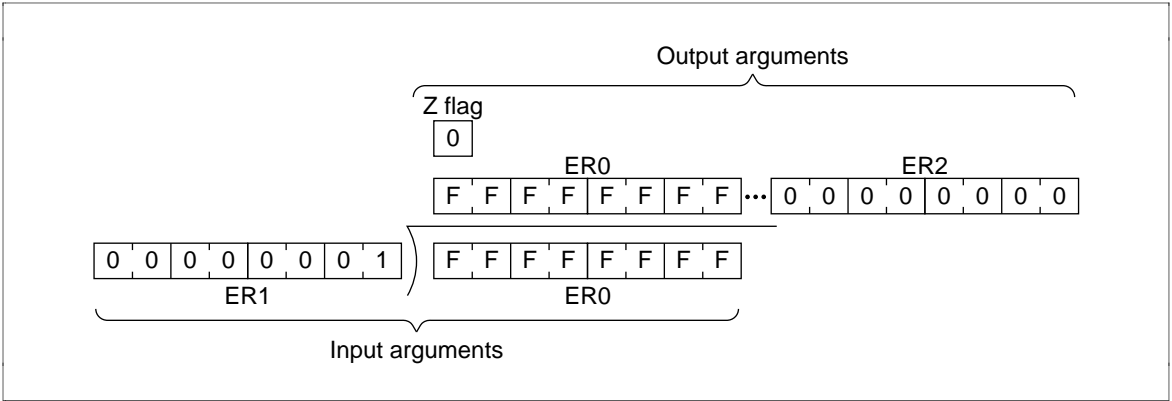

Figure 4.57 Executing DIVS
- Figure 4.57 is an example of execution of the software DIVS. When the input arguments are set as shown, the quotient is set in ER0 and the remainder is set in ER2.